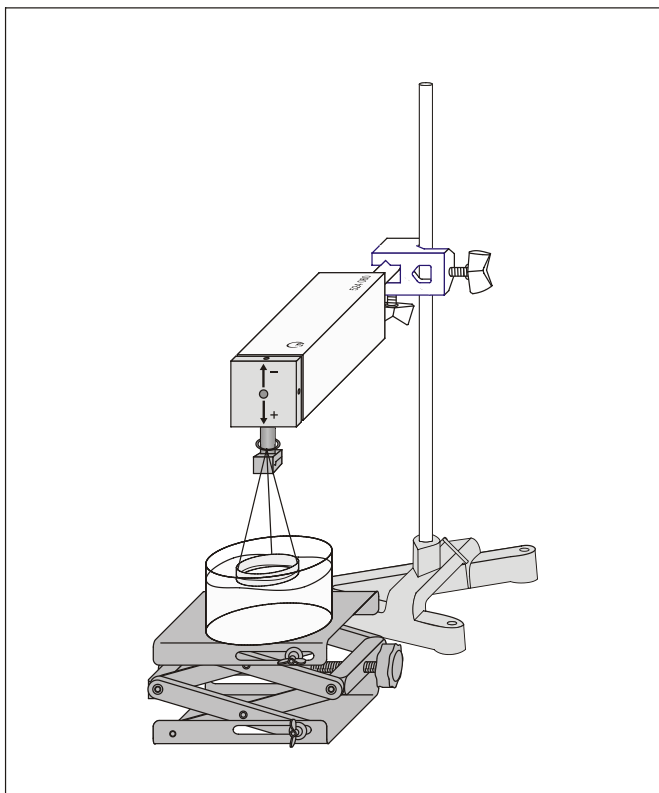

Fig. 3 Experimental setup for measuring the surface tension using the "break-away" method
- The experimental setup is illustrated in Fig. 3.